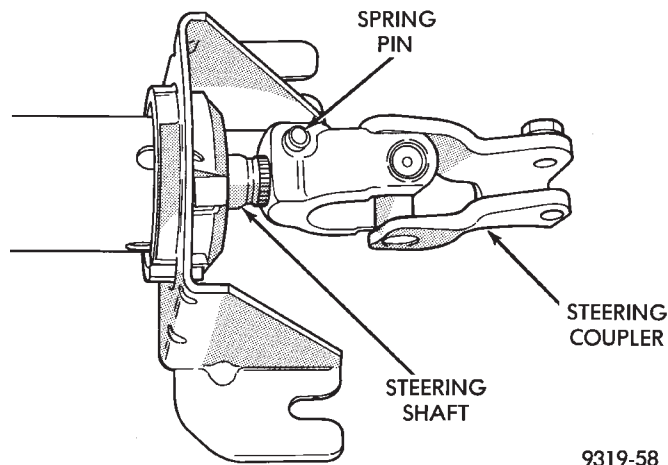

Fig. 7 Coupler Installed On Steering Column Shaft
(4) Install steering coupler on steering shaft until correctly positioned to allow spring pin to be installed in coupler. Then install spring pin into coupler, until flush with surface of steering coupler (Fig. 7). Steering column shaft must be supported during installation of spring pin. This is to prevent damage to steering column bearings.